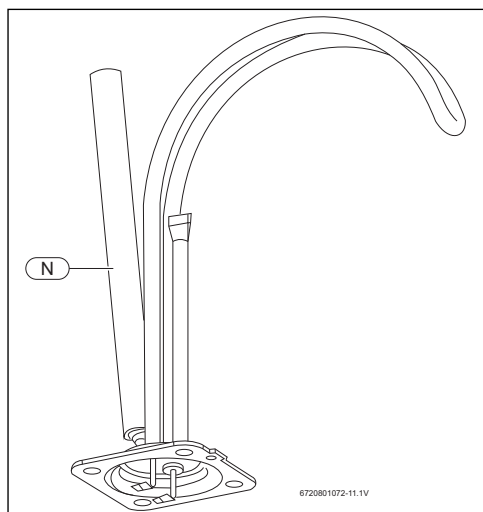

Fig. 11
The purpose of the anode rod (→ Fig. 11, [N]) is to protect the tank against corrosion. It is critical that the anode rod be inspected once a year to determine whether it requires replacement. To access the anode rod, the heating element must be removed (see Section 5.4 Removing the heating
- ▶ Remove and replace the anode rod (→ Fig. 11 [N]).